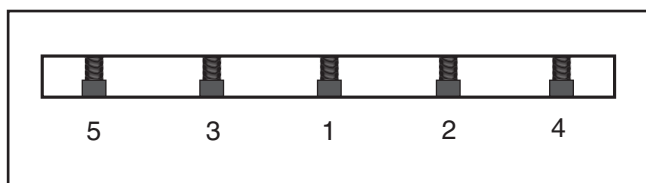

Figure 68. Gib bolt tightening sequence.
8. Rotate the cutterhead to the first knife you adjusted. Slightly tighten all the gib bolts, starting at the middle and working your way to the ends by alternating left and right (**Figure 68**). Repeat this step on the remaining knife.